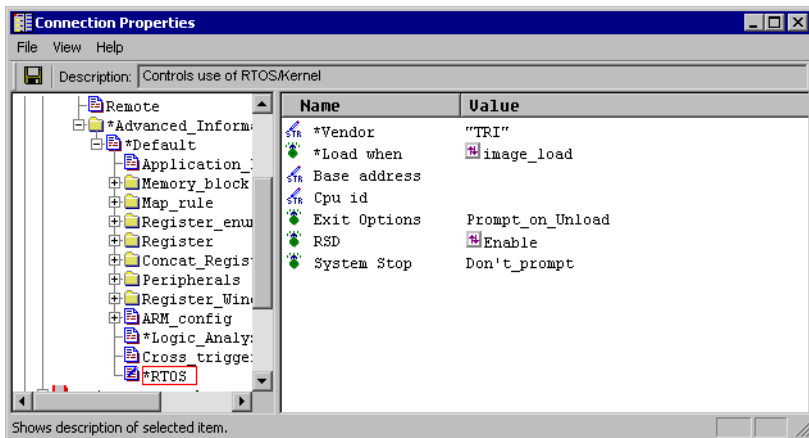

Figure 15-7 RTOS group in the Connection Properties window
5. Double-click on the RTOS group, in the right pane, to see the RTOS configuration settings, shown in the example in Figure 15-7 on page 15-15.
As shown in Figure 15-7, configure RTOS operation in your board file using the RTOS group: